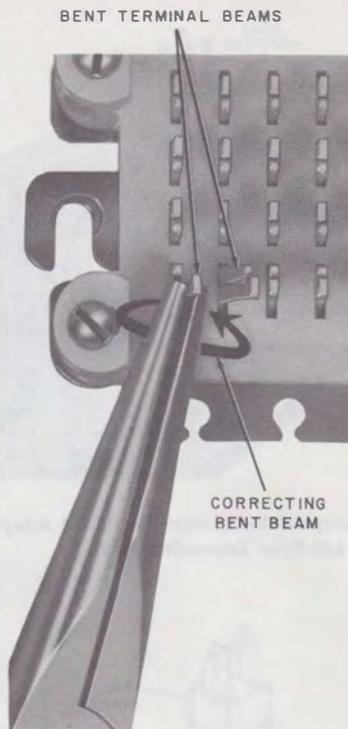

**Fig. 15—Misaligned Terminal Beams**
6.02 Terminals which have been bent or misaligned, as shown in Fig. 15, may be corrected by using long-nose pliers (Fig. 16). The bent beam should be moved until it is aligned with its mate or with other terminals of the same row. Care should be taken not to move beams or terminals